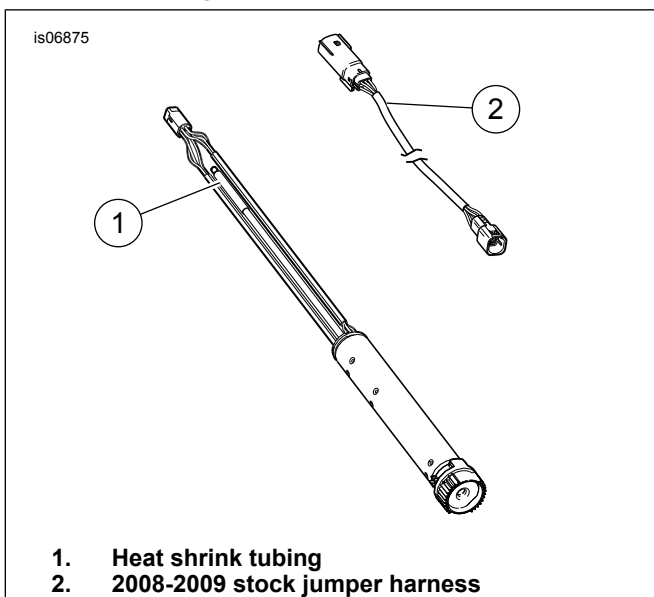

Figure 3. 2008 and 2009 TGS and Harness
3. See Figure 3. Unplug TGS jumper harness from TGS and main harness. Discard stock jumper harness (2).